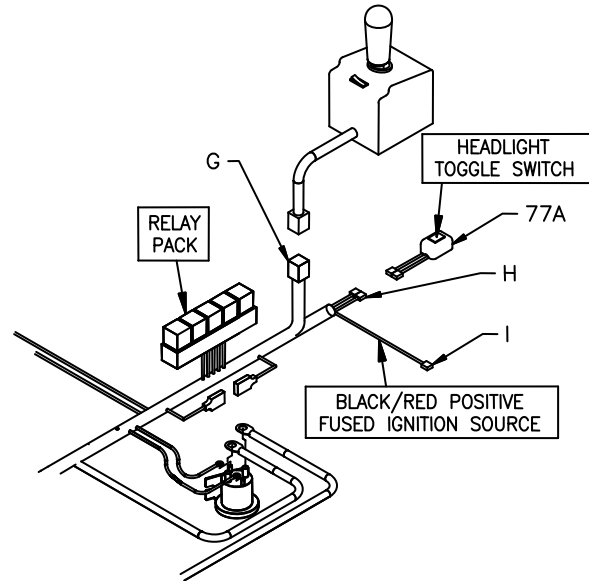

Figure 16. Internal Cab Wires G10144
11. Pull the two BLACK wires (H), BLACK/RED wire (I), and the 9 Pin Molex connector (G) from the engine compartment into the cab through the 1-1/4" diameter hole in the firewall.
13. Connect the Two Tab Connectors (H) to Headlight Toggle Switch (77A) as illustrated in Figure 16.